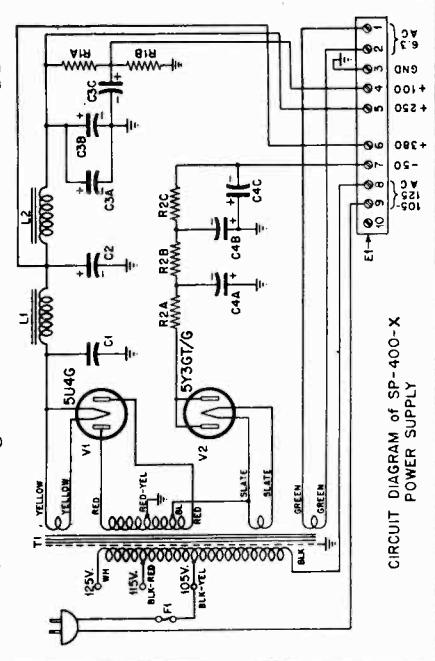

Fig. 10—
The Power Supply furnishes "A," "B" and "C" voltages for the Receiver. The "A," or heater voltage, is 6.3 volts AC obtained from a separate secondary winding (1-2) on the power transformer (T1, Fig. 10). "B" voltage is obtained from the center-tapped high-voltage secondary (7-8-10) connected to the plates of the "B" rectifier tube (V1). After this voltage is rectified, it is filtered by the combined action of the first filter choke (L1) and the two filter capacitors C1 and C2. This provides 380 volts DC for the plates of the power output tubes in the Receiver. Further filtering by the second filter choke (L2) and the first two sections of capacitor C3 provides 250 volts DC for the plates of the remaining tubes in the Receiver. Approximately 100 volts DC for the screen grids of the Receiver tubes is obtained from the tap on the bleeder resistor (R1), which is by-passed by the remaining section of capacitor C3. Negative "C" voltage is obtained from a tap (9) on the high-voltage secondary connected to the filament of the "C" rectifier tube (V2). The rectified output from the plates of tube V2 is filtered by the three sections of resistor R2 and the three sections of filter capacitor C4. When connected to the Receiver, the voltage at the end of this filter is approximately minus 50.